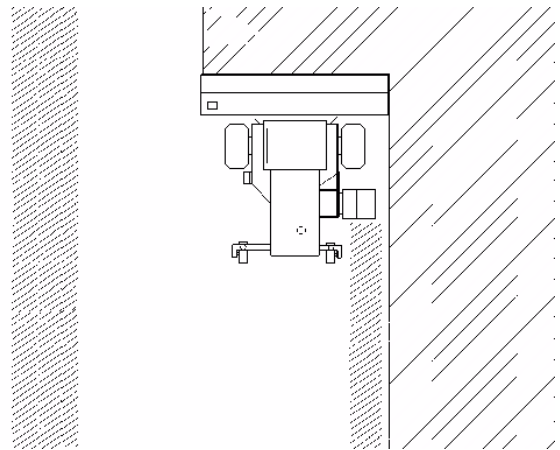

Figure 4. Double Windrowing, First Pass (Two-in-one)
- a/ In the first pass, set the deflector down (heavy conditions) or slow the belt speed (light conditions) to prevent the harvested crop from contacting standing crop (see Figure 4).